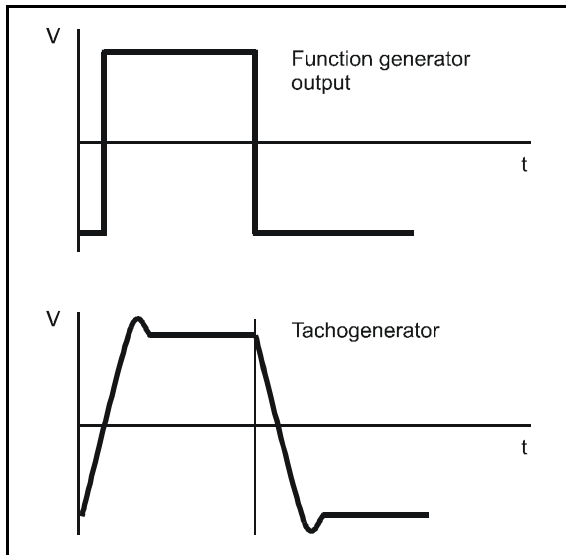
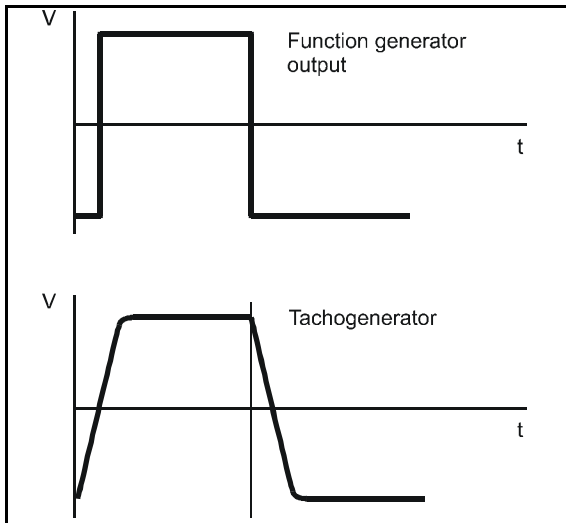

Figure 4-4 Waveform resulting from insufficient derivative gain
Figure 4-5 Ideal waveform
12. When a waveform without oscillation has been obtained, in most cases the response will have an overshoot as shown in Figure 4-4. In this case, the system has insufficient derivative action. Turn the DERIVATIVE potentiometer clockwise to eliminate the overshoot, as shown in Figure 4-5.